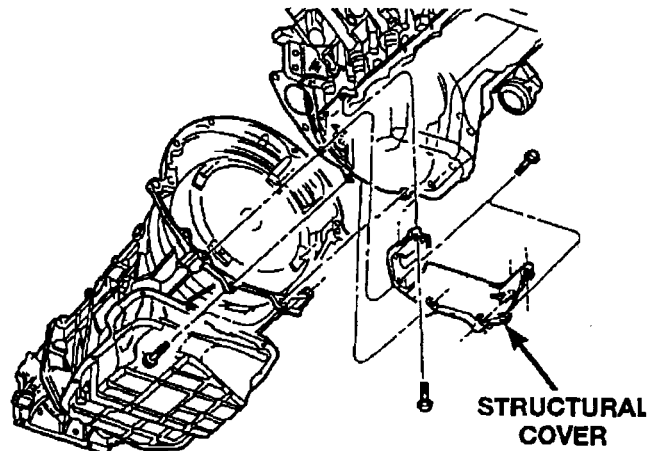

Figure 6
21. Remove the structural cover bolts from the transmission bellhousing (Figure 6).